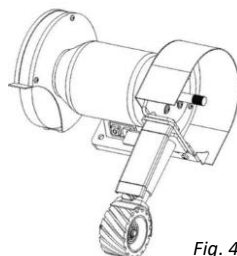

Fig. 4
5. Once completed, it should resemble Fig. 4.